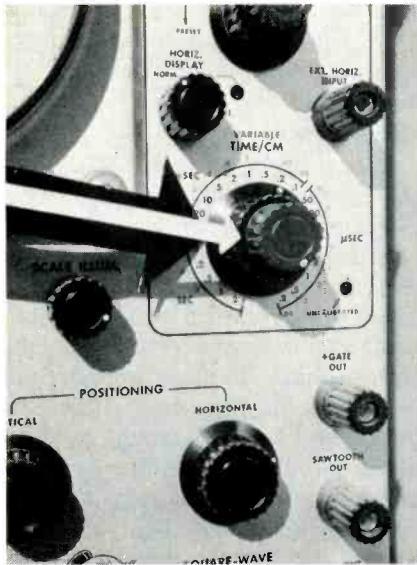
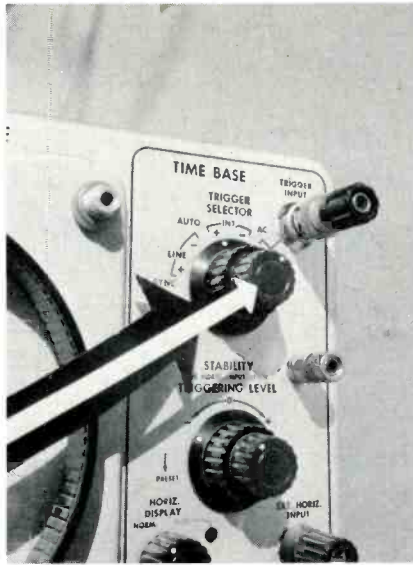
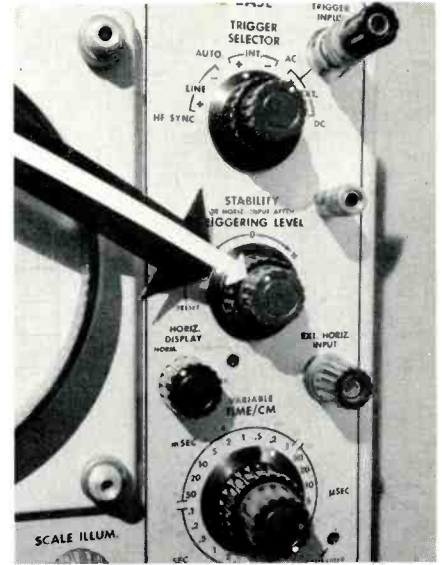
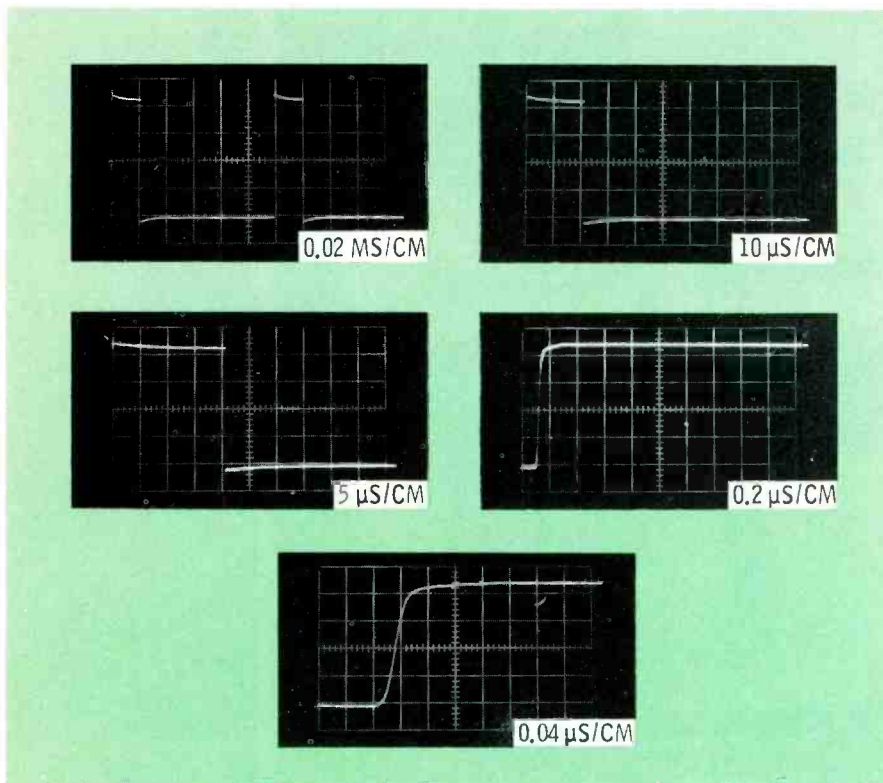

Fig. 2 Black arrow points to step time/cm control; white arrow points to continuous time/cm control.
Fig. 3 Black arrow points to EXT.-INT.-Line selector; white arrow points to mode selector.
Fig. 4 Black arrow points to triggering-level control; white arrow points to stability control.
Fig. 6 Expansion of a 20-microsecond pulse as the sweep speed of a triggered-sweep scope is progressively increased.
One less familiar control on a triggered-sweep scope, the time/cm control (Fig. 2), has the same basic function as the horizontal-deflection frequency control on a service-type scope, except that the stepped section of the time/cm control is accurately calibrated, so that each centimeter of horizontal deflection represents a known elapsed time. In most applications, the continuous time/cm (vernier) section of the control is not used, and is left snapped into its reference (CAL) position. (NOTE: The continuous time/cm function is not calibrated,
To display a sine wave on the CRT screen, connect the output from an audio oscillator (or even a heater line) to the vertical-input terminals of the triggered-sweep scope. Turn the scope on, and allow the unit to warm up. Make preliminary control adjustments as follows: intensity—minimum; focus—centered; astigmatism—centered; vertical attenuator— $\frac{1}{3}$ of maximum; trigger selector—AUTO, and + INT. (see Fig. 3); triggering-level control—minimum to left (see Fig. 4); stability control—centered (see Fig. 4); horizontal-display control—NORM. (control is seen in Fig. 4); time/cm control—centered (see Fig. 2); vertical-positioning control—centered (seen in Fig. 2); and horizontal-positioning control—centered (seen in Fig. 2).
Use the AUTO. (automatic) mode of time-base operation to start with, because it is the simplest type of operation, and because the time base is free-running. None of the time-base controls needs to be adjusted in this mode, and sync lock is automatic. In other words, the trigger-level and stability controls (Fig. 4) are inoperative in the AUTO. mode.
As in the case of a service-type scope, adjust the horizontal-deflection rate (time/cm control, Fig. 2), to display the desired number of cycles on the screen. The visibility of a horizontal trace in the absence of a vertical-input signal and the automatic synchronization provided in this mode are very useful features. The chief disadvantage of the AUTO. mode is that the starting point of the waveform in the displayed pattern cannot be controlled, nor can a section in a waveform (such as a color burst) be isolated for individual display.
With the same sine-wave vertical input as before, turn the trigger-selector control (Fig. 3) to its AC position. Then, advance the stability control to the right until a stable pattern is displayed. (In the case of
Next, as the triggering-level control (Fig. 4) is turned back and forth, observe that the starting point on the waveform moves up or down in the pattern. This action is depicted for a trapezoidal waveform in Fig. 5A. It is essential when displaying a waveform for measurement of rise time (Fig. 6).
When the trigger-selector switch (Fig. 3) is set to its -INT. position, the displayed waveform is shifted 180° in phase; as the triggering-level control (Fig. 4) is turned back and forth, the starting point on the waveform moves up or down in the pattern, as shown in Fig. 5B.
The horizontal-display control is seen in Fig. 3. When set to its MAG. (magnifier) position, the horizontal-amplifier gain is increased five times. Since the trace now occupies a much greater length, the intensity control must be advanced to obtain normal pattern brightness. (NOTE: Before the horizontal-display control is switched back to its NORM. (normal) position, the in-
The magnifier function is used when checking the leading or trailing edges of fast-rise or fast-fall waveforms, as illustrated in Fig. 6.
In various applications, use of the EXT. (external) setting of the trigger-selector switch is advantageous, or even essential. For example, it is used when separating the color burst from a color-bar waveform. Thus, if a sample of the burst signal from the burst amplifier in a color receiver is fed to the trigger-input terminal of the scope (Fig. 3), it is easy to lock in the color burst, even if the test probe is moved from one
The most common trouble symptom related to the drive system is "stalling in cycle"—the change cycle starts but then hangs up. Almost invariably, this is caused by slippage in the drive system. There's a definite cleanup procedure that clears up 99 percent of such cases—if the motor is running freely. The cleaning steps are illustrated in Fig. 6.
Fig. 6 Cleaning the drive system prevents stalling during change cycle. (A) Wipe turntable rim clean with alcohol. (B) Hold idler away from motor shaft and clean spinning shaft. (C) Remove C-clip holding idler and (D) remove idler. Clean it and mounting spindle.